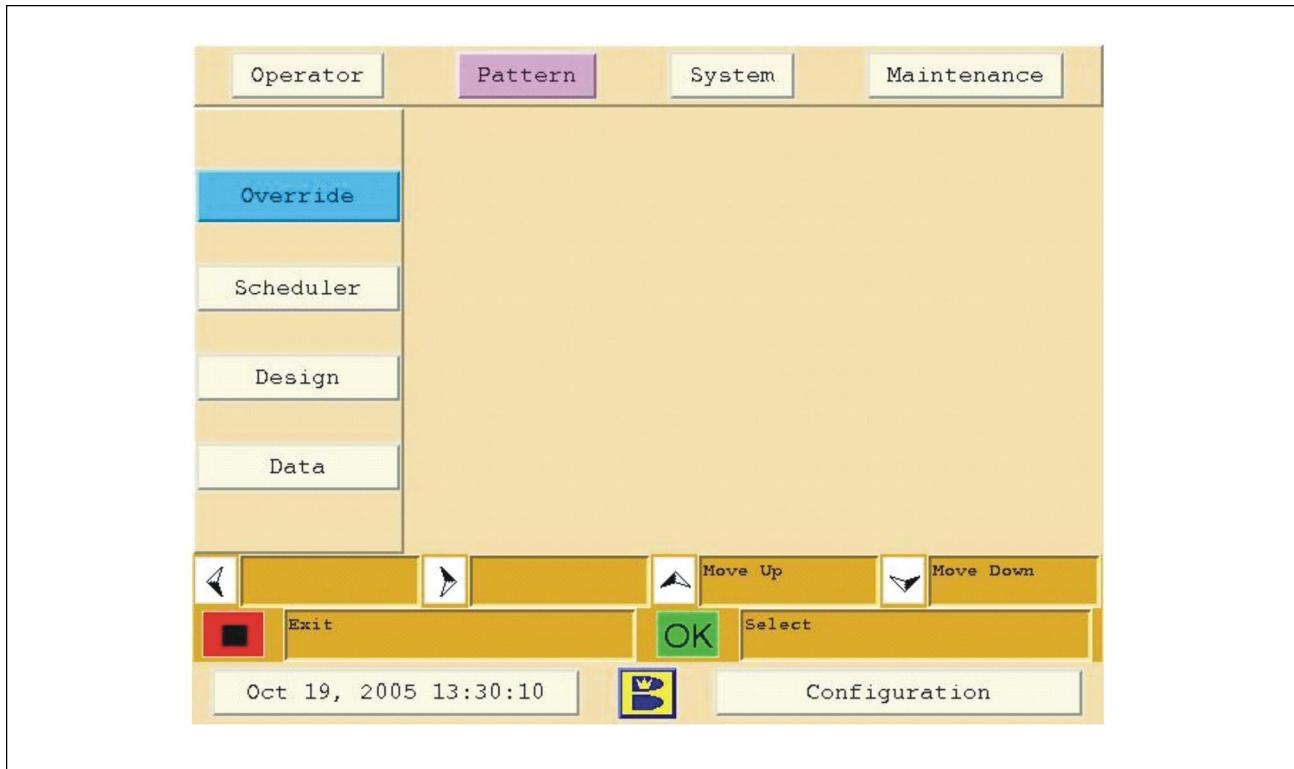

Figure 4-4. Pattern Screen
1. Press the "Exit" button until you reach the main screen for that section – Operator, Pattern, System, or Maintenance (the active area of the screen will be blank and only the left menu bar will be visible). Refer to Figure 4-4.
The pattern screen lets you select, change, design, or override a lane conditioning pattern. The Authority22 comes preprogrammed with conditioning patterns. You may use these patterns as your own, or use them as templates to create customized patterns – just find the pattern that's closest to what you want and then adjust the zone lengths and oil volumes. You can return to the original default patterns at any time. Refer to Figure 4-4.